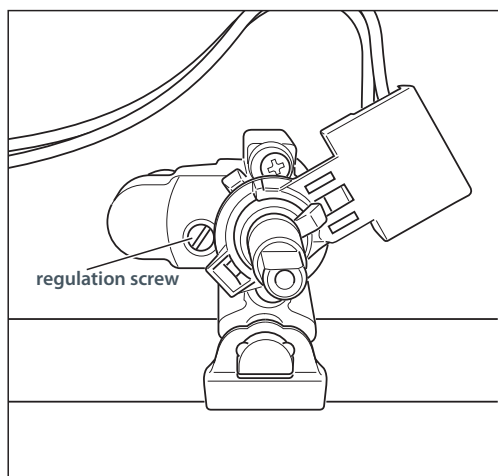

Fig. 17 Adjusting the minimum burner setting:
- 4 Using a small flat screwdriver, turn the screw (see Fig. 17) to the correct regulation.